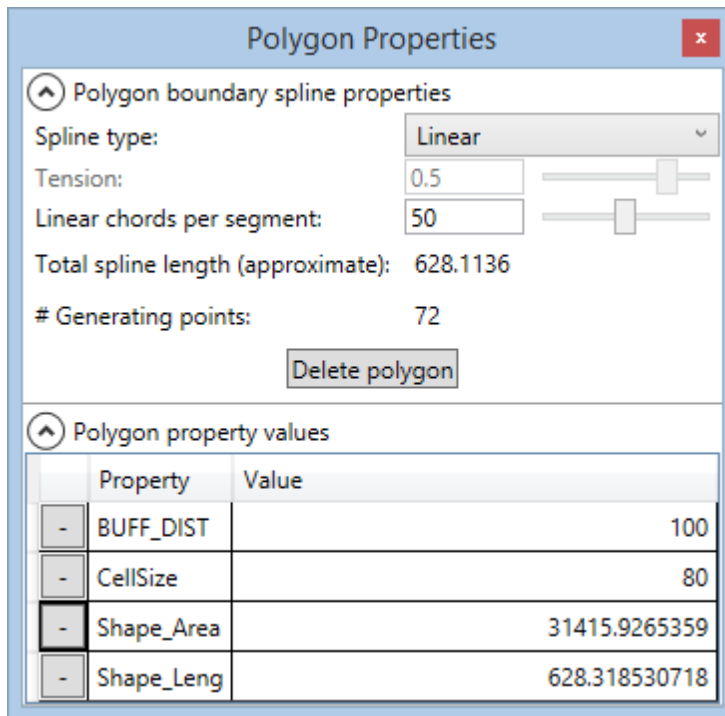

Figure 59: The polygon properties window of the western pumping well, with CellSize changed to 80.
- **Click on the 25 value** listed for CellSize and **change it to 80**. Your Polygon Properties window should look like that shown in Figure 59.